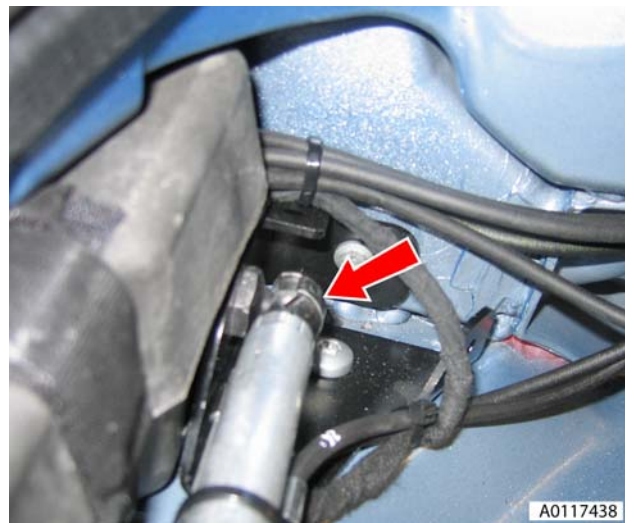

Figure 8
14. Release cylinder lower retaining clip and disconnect cylinder from body (see Figure 8).